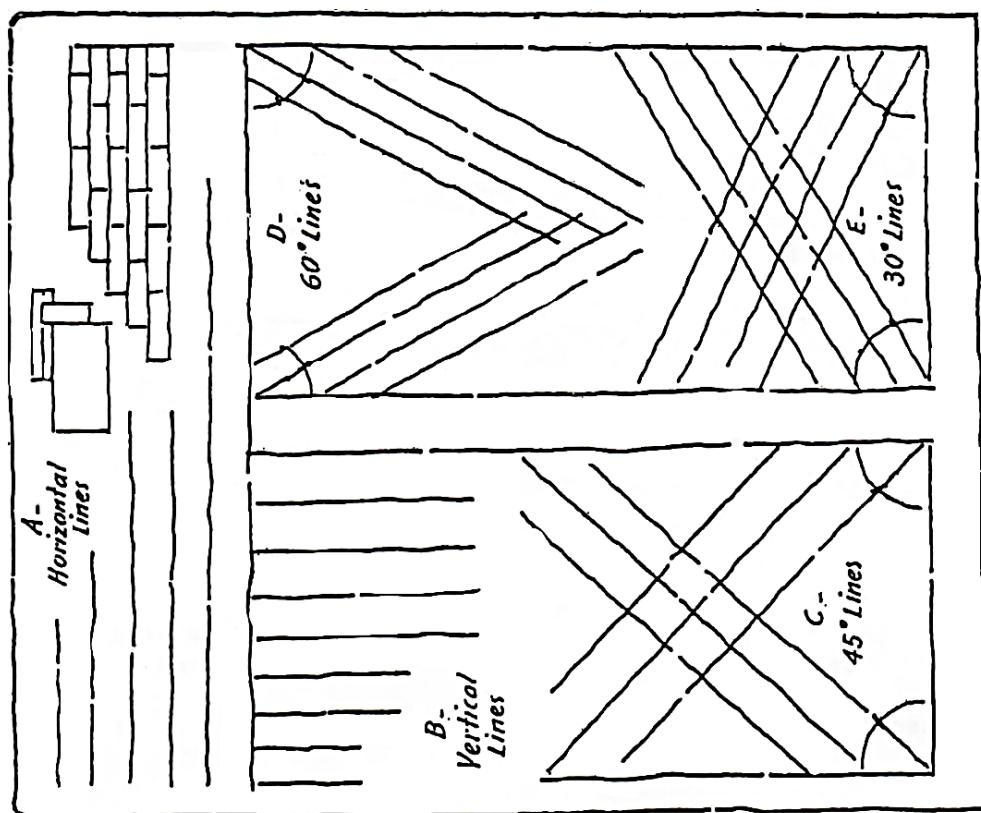

Fig. 1.1 Lettering Practice
1.1 Reproduce Fig. 1.1 (Lettering Practice). Refer the procedure for lettering given in Fig. 1.3